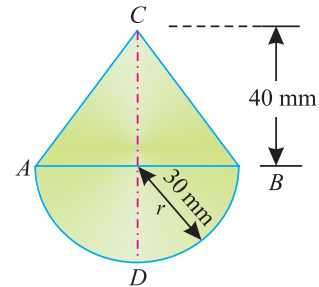

Fig. 6.18.
**Solution.** As the body is symmetrical about Y-Y axis, therefore its centre of gravity will lie on this axis as shown in Fig. 6.18. Let bottom of the hemisphere (D) be the point of reference.